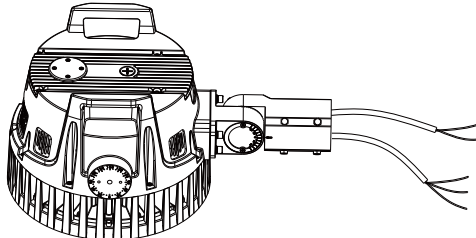

Figure 4
- 2: Install the bracket on the fixture. (Figure 4)